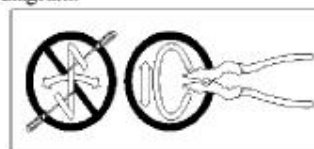

Fig.3
CONNECTING THE WIRES (Fig.3)
1. At this point, connect the electrical wires as shown in Fig.3 making sure all wire nuts are secured. You may have to wrap the connections with electrical tape. If your outlet has a ground wire (green or bare copper), connect fixture's ground wire to it. Otherwise connect fixture's ground wire directly to the junction box.
3. Raise the lock collar and thread onto ceiling loop protruding through the canopy (B) and the canopy (A).